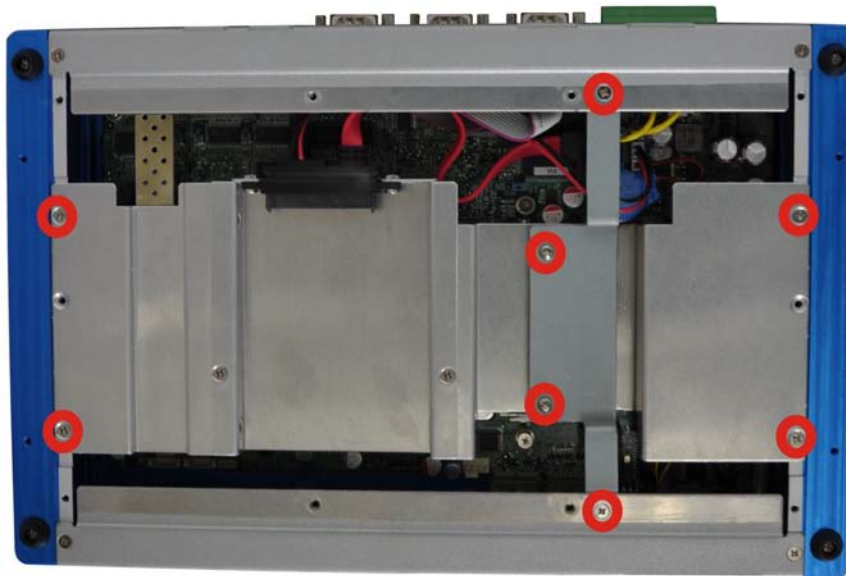

Figure 3-9: Retention Screws
- Step 2:** Remove the eight retention screws (**Figure 3-9**), unplug the SATA signal and power cables connected to the TANK-720, and then lift the bracket out of the TANK-720.